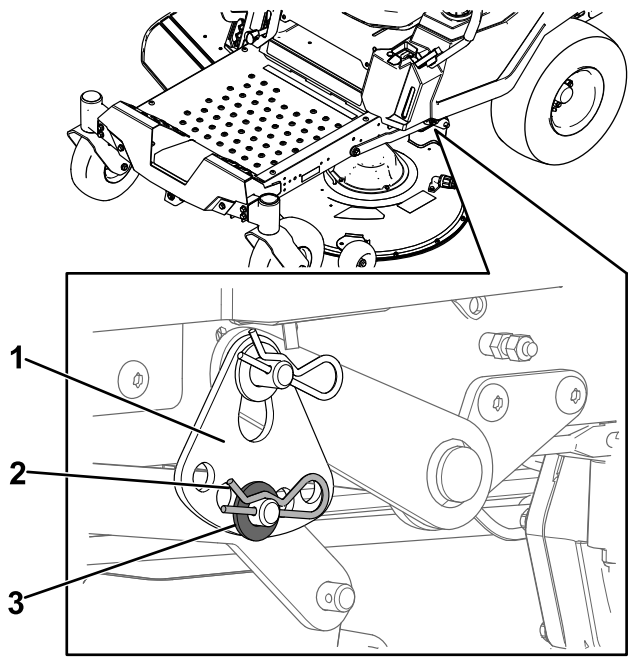

**Figure 66**
3. Carefully rotate the blades so that they are all side to side (Figure 65 and Figure 66).
4. Measure between the outside cutting edges and the flat surface (Figure 65 and Figure 66). If both measurements are not within 3/16 inch (5 mm), an adjustment is required; continue with this procedure.